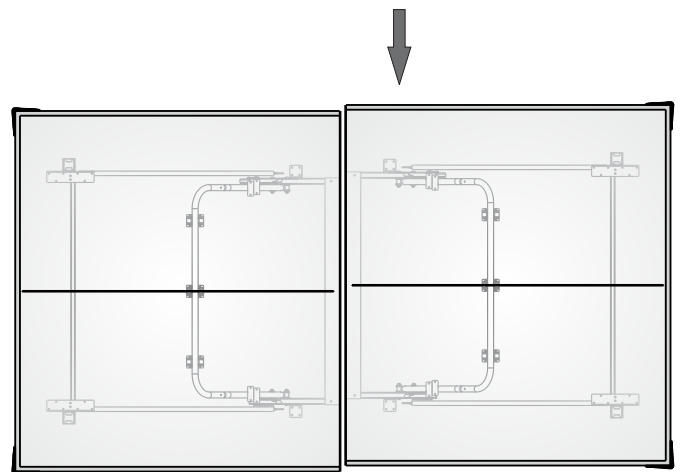

Figure 9
IF TABLE IS NOT ALIGNING CORRECTLY: (see Figure 9)
3. With the help of two other adults, push the two table top halves so they are in line with each other and re-tighten Nuts (#34) as shown in Figure 9.